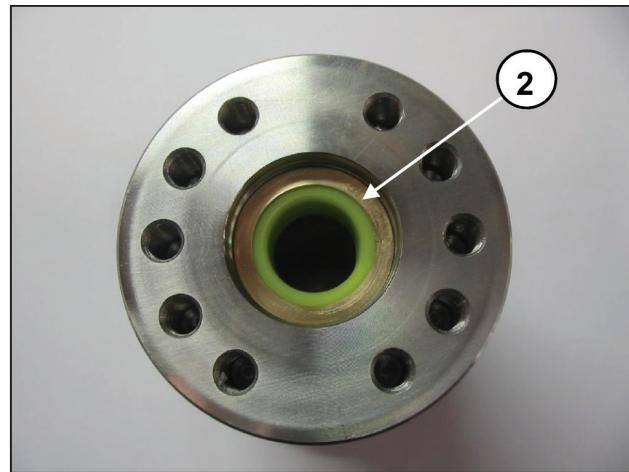
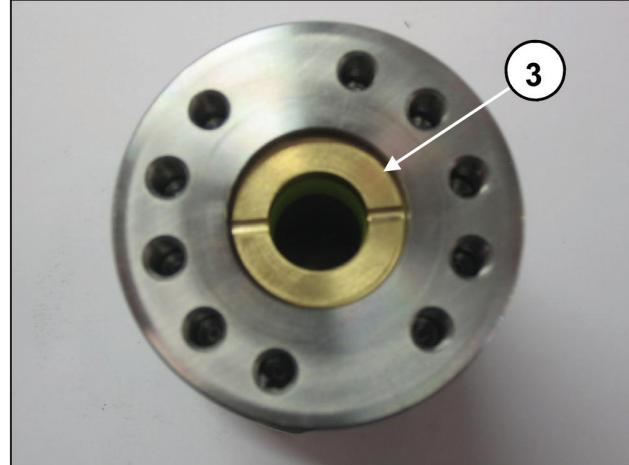
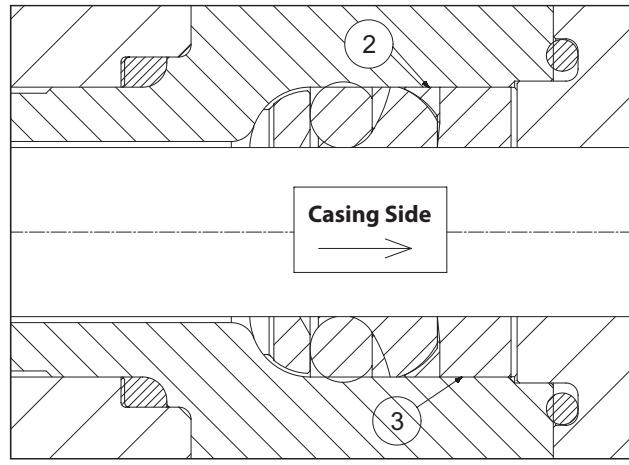

Fig. 124
Fig. 125
Fig. 126
- Insert the anti-extrusion ring ② and the gasket bush ③ arranged as shown in Fig. 124, Fig. 125 and Fig. 126. The gasket bush ③ must be introduced into the support with the outlets facing outwards (casing side) as shown in Fig. 125 and in Fig. 126.